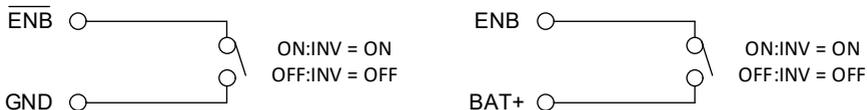

Figure 15. Wiring for control
Remote inverter control black terminal ② may be used to control the inverter from a remote switch or source, either a POS or NEG signal can be used as shown in Figure 15.